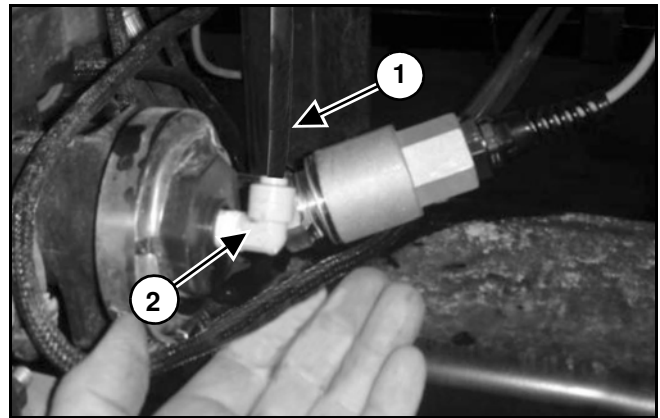

Figure 23
[Figure 23] - Remove the sprayer pressure sensor line (1) from the 1/4" x 90° plastic elbow fitting (2).